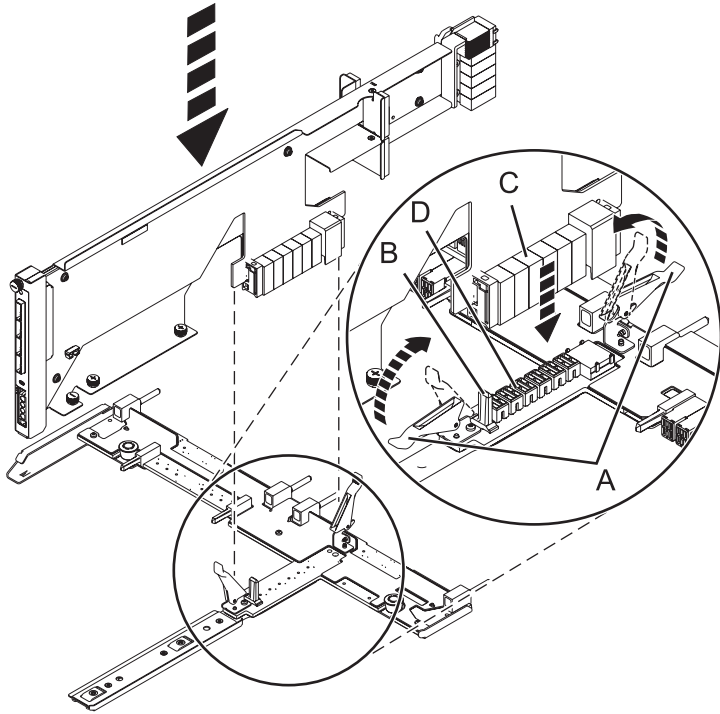

Figure 74. Installing the SAS conduit card into the midplane
- a. Place the card connector (C) on the midplane connection (D) using the guide track (B) to ensure a good connection.
- b. Lift the handle (A) to seat and secure the SAS conduit card to the midplane as shown in Figure 74 on page 103.